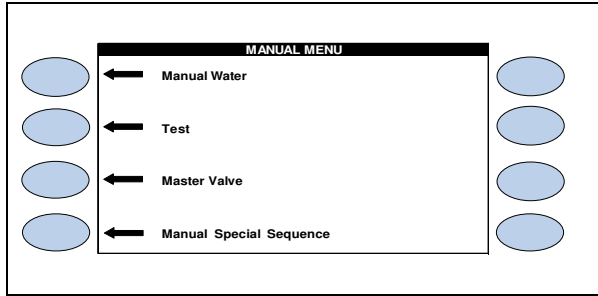

Figure 14
18. Press the **MANUAL** Menu key. This will take you to the **MANUAL IRRIGATION** screen (Figure 14).